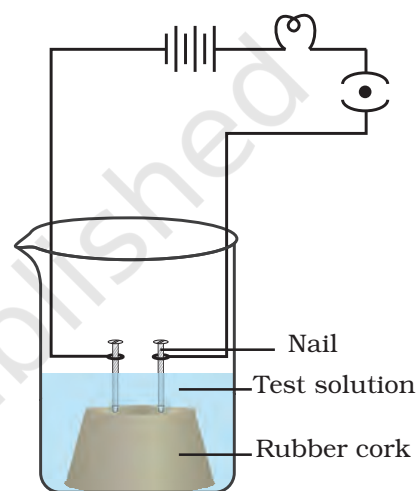

Fig. 6.1 : Continuity test through an electrolyte
- Draw a circuit diagram for performing a continuity test in an electric circuit that contains either an acid or a base or a salt solution as a part of it (see Fig. 6.1). Observe how different components like the dry cells (or battery or battery eliminator), torch bulb, a plug key, and the solution are connected in the circuit.